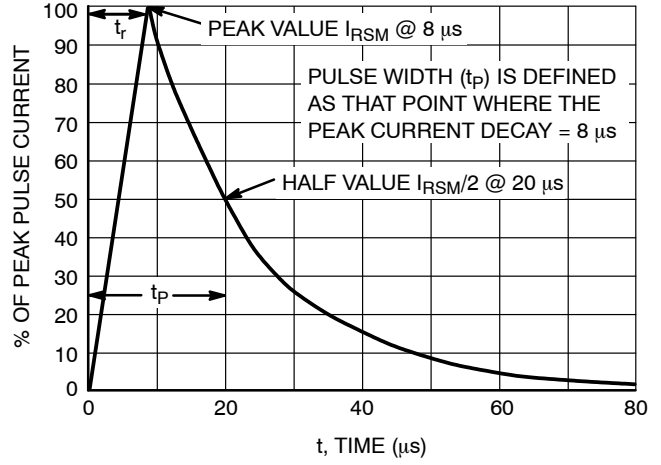

Figure 2. $8 \times 20 \mu\text{s}$ Pulse Waveform
1. Non-repetitive current pulse per Figure 2
5. Surge current waveform per Figure 2